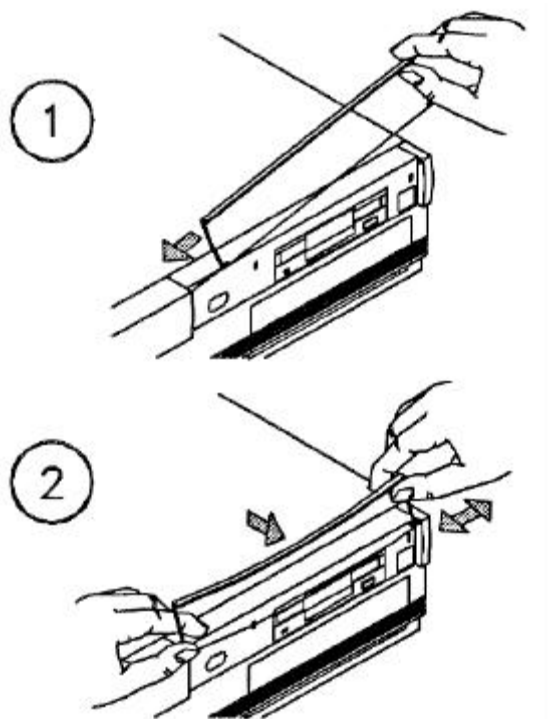

Figure 2-1: Installing the Smoked Glass Door
1. Insert the protruding plastic knob on the smoked glass door into the corresponding hole in the chassis, as shown in Figure 2-1 below.